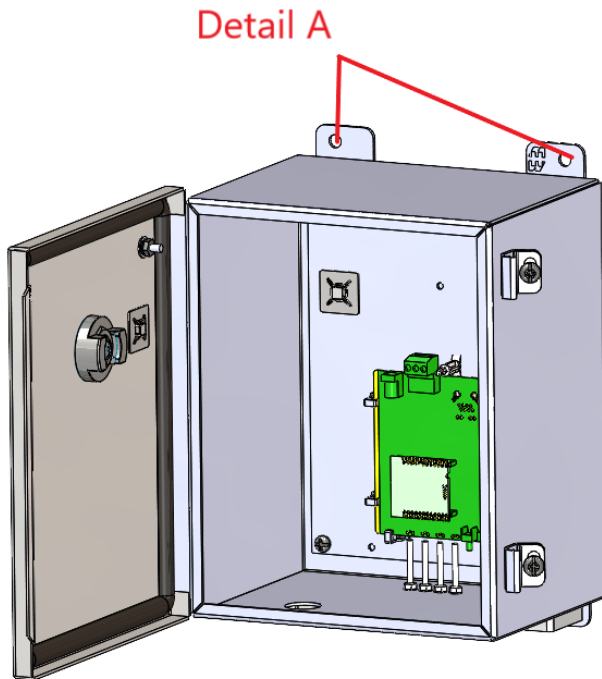

Figure 11 Equipotential (EP) Bonding
- Refer to Fig. 11 Detail "A" for allowable EP connections points